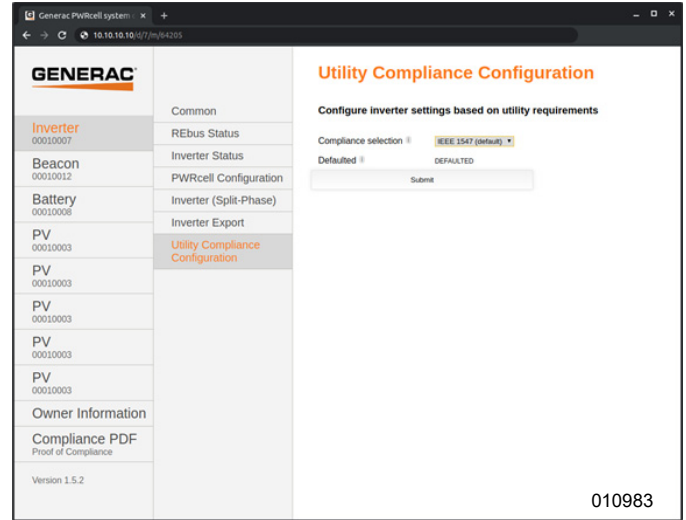

Figure 6-32. Utility Compliance Configuration
2. See Figure 6-32 Click on Utility Compliance Configuration and select the appropriate utility compliance standard from the menu at the bottom of the page. Click Submit to apply the compliance standard. The settings entered will not take effect until the Submit button has been clicked.